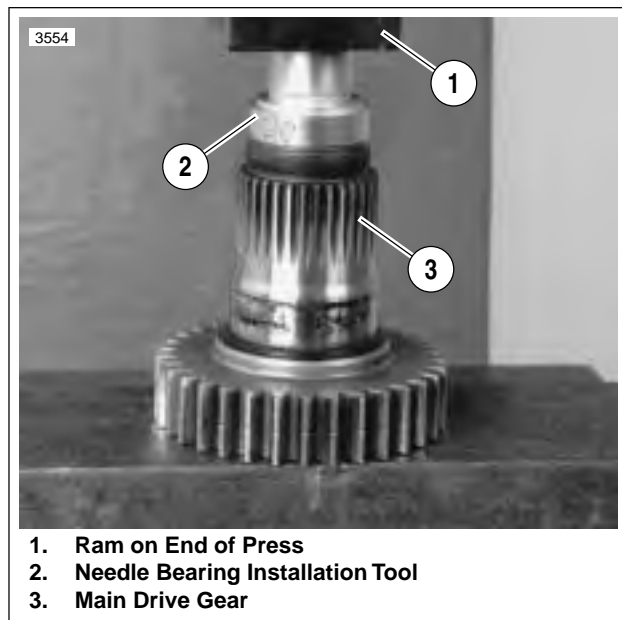

Figure 6-52. Needle Bearing Installation Tool
- See Figure 6-52. Use INNER/OUTER MAIN DRIVE GEAR NEEDLE BEARING INSTALLATION TOOL (Part No. HD-37842A) for assembly. Select which end of tool to use.